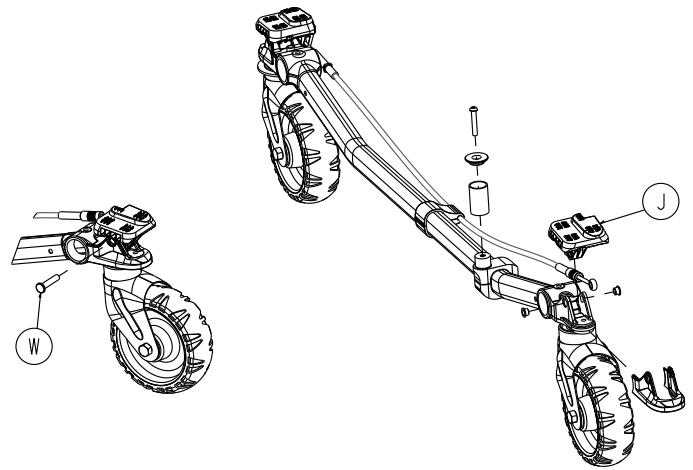

Figure 54 – Brake pedal components
5. Using a slotted screwdriver, remove the slic pin (W) from the brake pedal (J) that secures the cable (on the side that goes through cross-tube) (Figure 54). Save the slic pin.